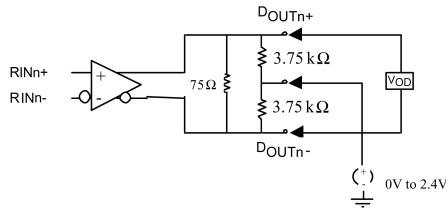

FIGURE 1. Common Mode Supply Test Circuit
1. When the true and complement LVDS outputs (having a 100Ω connected between outputs) are connected to 3.75kΩ resistors and the common point of those 3.75kΩ resistors are connected to a voltage source that sweeps from 0V to 2.4V, the DC  $V_{OD}$  and  $\Delta V_{OD}$  are still maintained (see Figure 1).